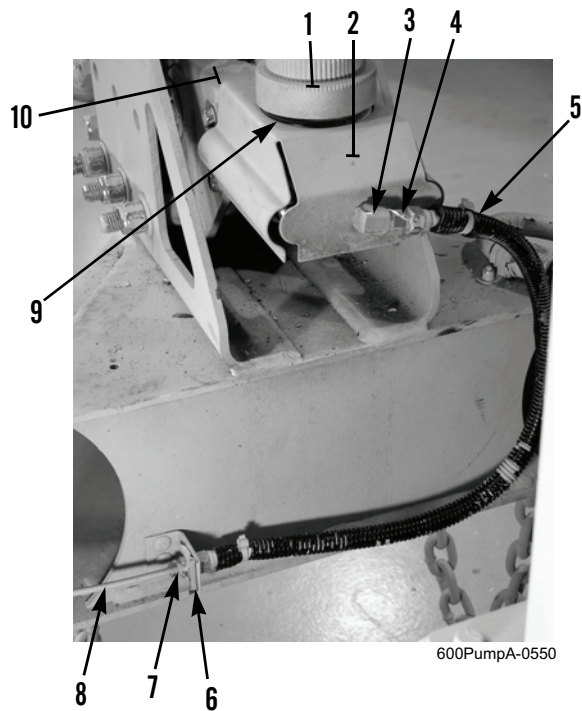

Figure 12. Master Cylinder and Flex Brake Line.
3. Install access cover (Figure 12, Item 2) on actuator housing (Figure 12, Item 10). Reinstall cap (Figure 12, Item 1) on master cylinder (Figure 12, Item 9).
4. Remove plug from orifice of master cylinder (Figure 12, Item 9). Install elbow (Figure 12, Item 3) and straight adapter (Figure 12, Item 4) on master cylinder.
5. Connect flex brake line (Figure 12, Item 5) to straight adapter (Figure 12, Item 4).
6. Connect flex brake line (Figure 12, Item 5) to front solid brake line (Figure 12, Item 8) and tighten nut (Figure 12, Item 7). Install frame bracket clip (Figure 12, Item 6).
7. Remove cap (Figure 12, Item 1) and add brake fluid to master cylinder (Figure 12, Item 9), until brake fluid level is within 1/8 in. (0.32 cm) of top of master cylinder reservoir.